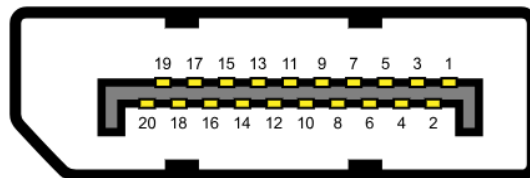

Figure 4-22: DP Connector Pinout Locations
- CN Pinouts:** See **Table 4-21** and **Figure 4-22**